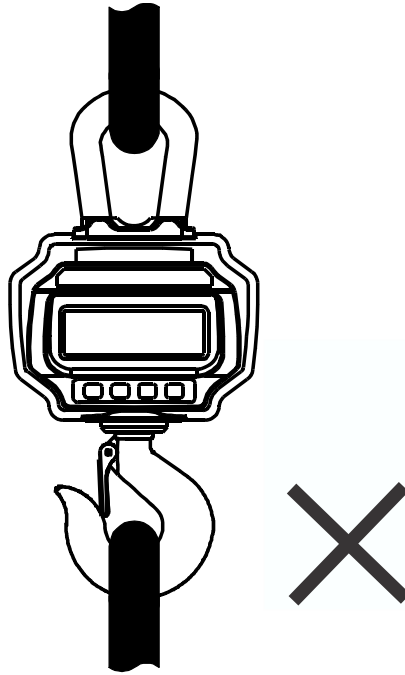

Figure 5.2 Oversized Interface Attachment
- DO NOT attach oversized interface! Refer to Figure 5.2.